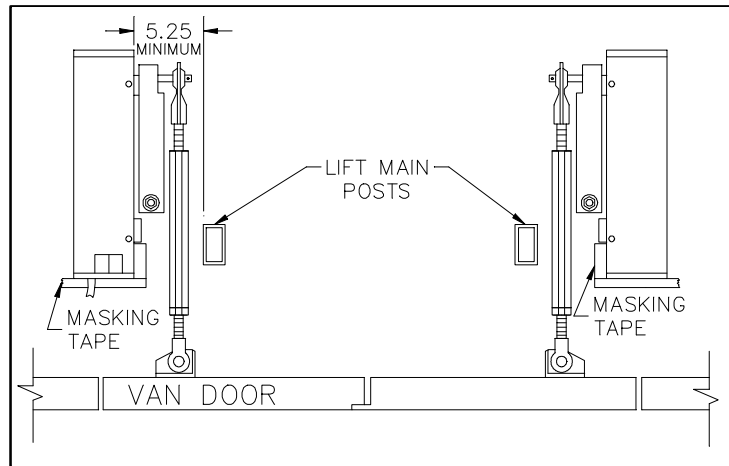

FIGURE 2-3: MOTOR LOCATION
1. Refer to **Figure 2-3**. Fasten the rods to the door brackets. With the Swing Power Door Operator units in the closed position, place the door brackets against doors. Close the doors and use tape to mark the ends of the motors' mounting plates.